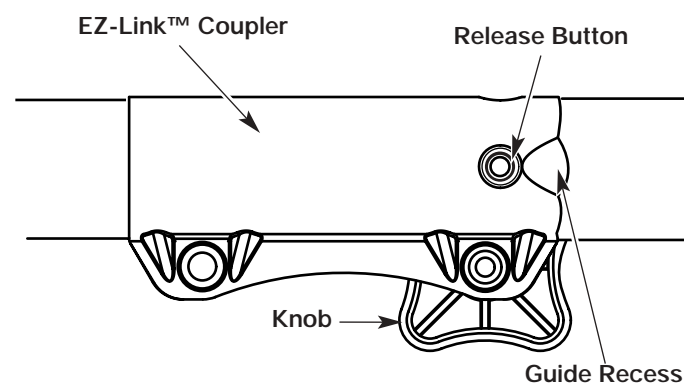

Fig. 6
1. Turn the knob counterclockwise to loosen (Fig. 6).
2. Press and hold the release button (Fig. 6).
1. Turn knob counterclockwise to loosen (Fig. 6).
**NOTE:** Aligning the release button with the guide recess will help installation (Fig. 6).